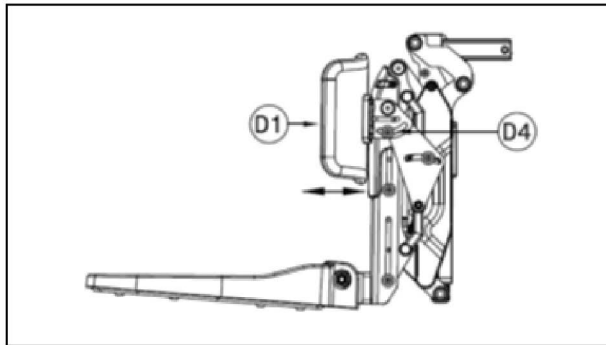

Fig 9
- (1) Use Allen key to loosen the screw <D4>. (Fig 9)
- (2) Adjust the calf-pad <D1> to desired position. (Fig 9)
- (3) Use Allen key to tighten the screw <D4>. (Fig 9)